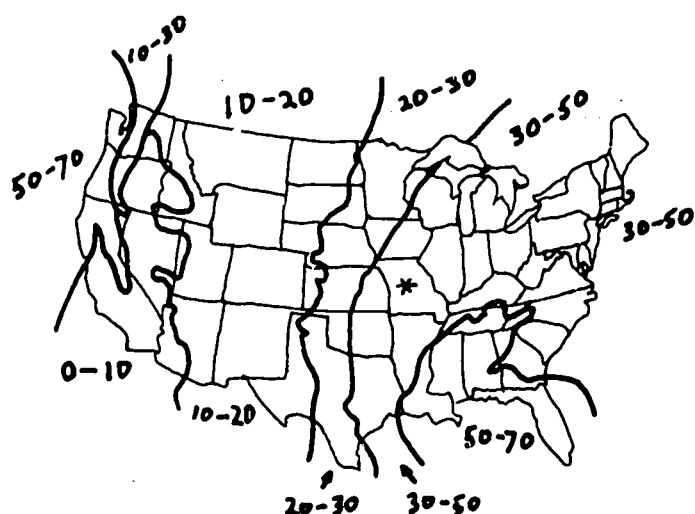

Fig. 76-1. Average Annual Rainfall in Inches
1. Figures 76-1, 76-2, and 76-3 are maps. On each map, mark a star (*) where you want to build your dream house. See (*) example in Figs. 76-1, 76-2, and 76-3.